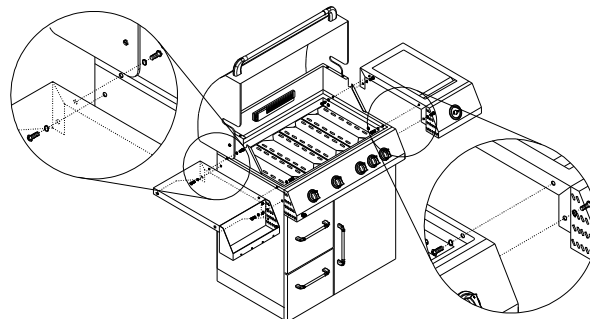

Figure 3
3. Attach side shelves to both sides of grill by using $\frac{1}{4}$ " x 15mm Philips head screws. (Fig.3)